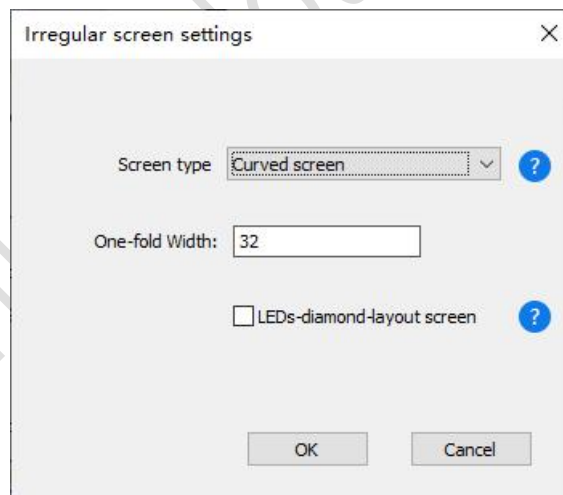

Fig.3-13 Curved screen settings
- ◆ **Curved screen:** Select this checkbox when the screen is a curved one assembled by modules with the same LEDs in row and in column. You should also enter a value in the **One-fold Width** input box for a curved screen according to the real situation. See Figure 3-13.